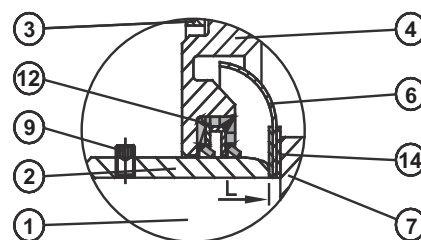

Fig. 18
The fans are mounted with a shaft seal between shaft and fan housing. There are two main types of seals: split seal and double lip seal. In the following only the double lip seal is described. The seal is made up of several components. See fig. 18 and 19. The individual components are sealed by means of seals. Between shaft and fan housing sealing is performed using a double lip seal and an oil thrower. The seal is clamped between the abutting surface of the motor shaft and the impeller.
The impeller (pos. 7) is detached as described under "5.2 Dismounting of impeller from the inlet side" or "5.4 Dismounting of motor with impeller from the motor side". Pull the oil thrower (pos. 6) and the seals (pos. 13) off the shaft (pos. 1). See fig. 18. Loosen the four tailstock screws (pos. 9) in the gland seal (pos. 2), and pull the gland seal (pos. 2) off the
All seals must be replaced upon mounting. See fig. 18 and 19. Lubricate the gland seal (pos. 2) on the inside with a thin oil and push it over the shaft (pos. 1). Fill up two-thirds of the cavity in the gland seal (pos. 12) with SKF LGEP 2 or similar grease. Press the double lip seal (pos. 12) into the sealing cover (pos. 4).